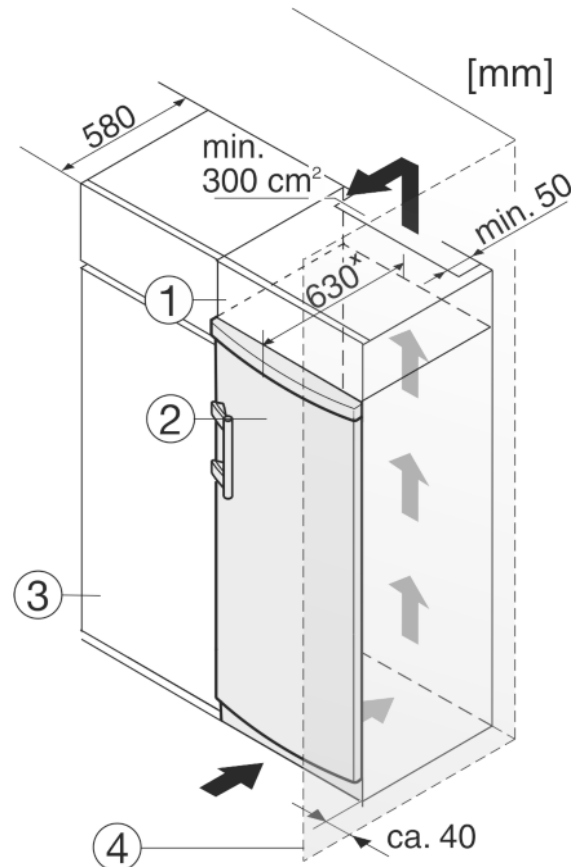

Fig. 11
The appliance can be built into kitchen units. A top cupboard Fig. 11 (2) can be added above the appliance in order to bring the appliance Fig. 11 (1) up to the height of the fitted kitchen units.
When installing with kitchen units (max. depth 580 mm), the appliance can be positioned directly next to the kitchen cabinet Fig. 11 (3). The appliance will project by 34 mm \* at the sides and 50 mm \* in the centre of the appliance in relation to the kitchen cabinet front.
If the appliance is installed with the hinges next to a wall Fig. 11 (4), the distance between appliance and wall has to be at least 40 mm. This corresponds to the projection of the handle when the door is open.